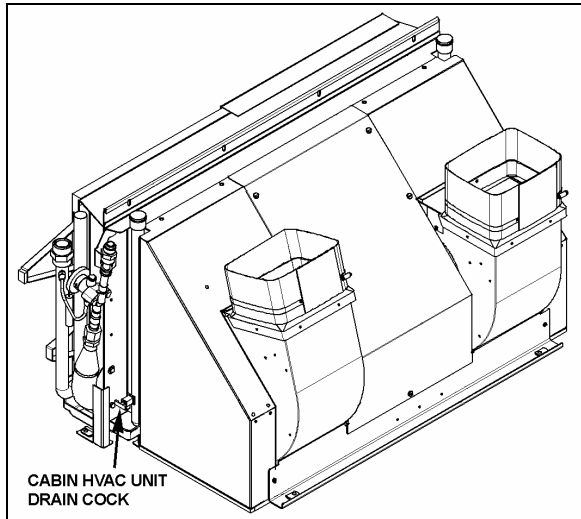

FIGURE 55: CABIN HVAC UNIT DRAIN COCK 22128
- d) Open drain cock in bottom of heater core, you can unfasten a hose connection on top of heater core (Fig. 55) in order to allow air to enter while draining.